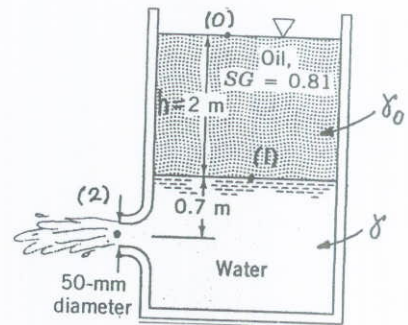

FIGURE P3.72
3.72 If viscous effects are neglected and the tank is large, determine the flowrate from the tank shown in Fig. P3.72